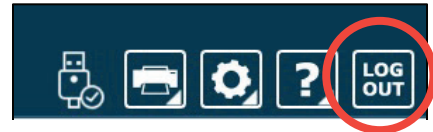

Figure 35: Software Logout Button
1. If signed into a Bertec® operator account, click the Logout button (Figure 35). It is located on the upper right corner of the screen. If a popup window appears, click Yes to confirm the logout.